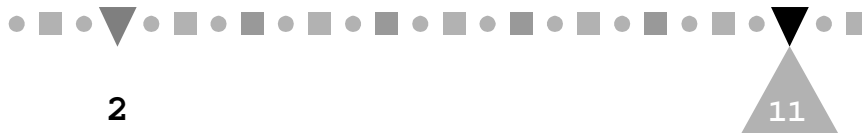

Figure 2-7 The "OS/2 System - Icon View" Window
7. Close the window and double click the Command Prompts icon in the OS/2 System - Icon View window (see Figure 2-7). The following window appears: